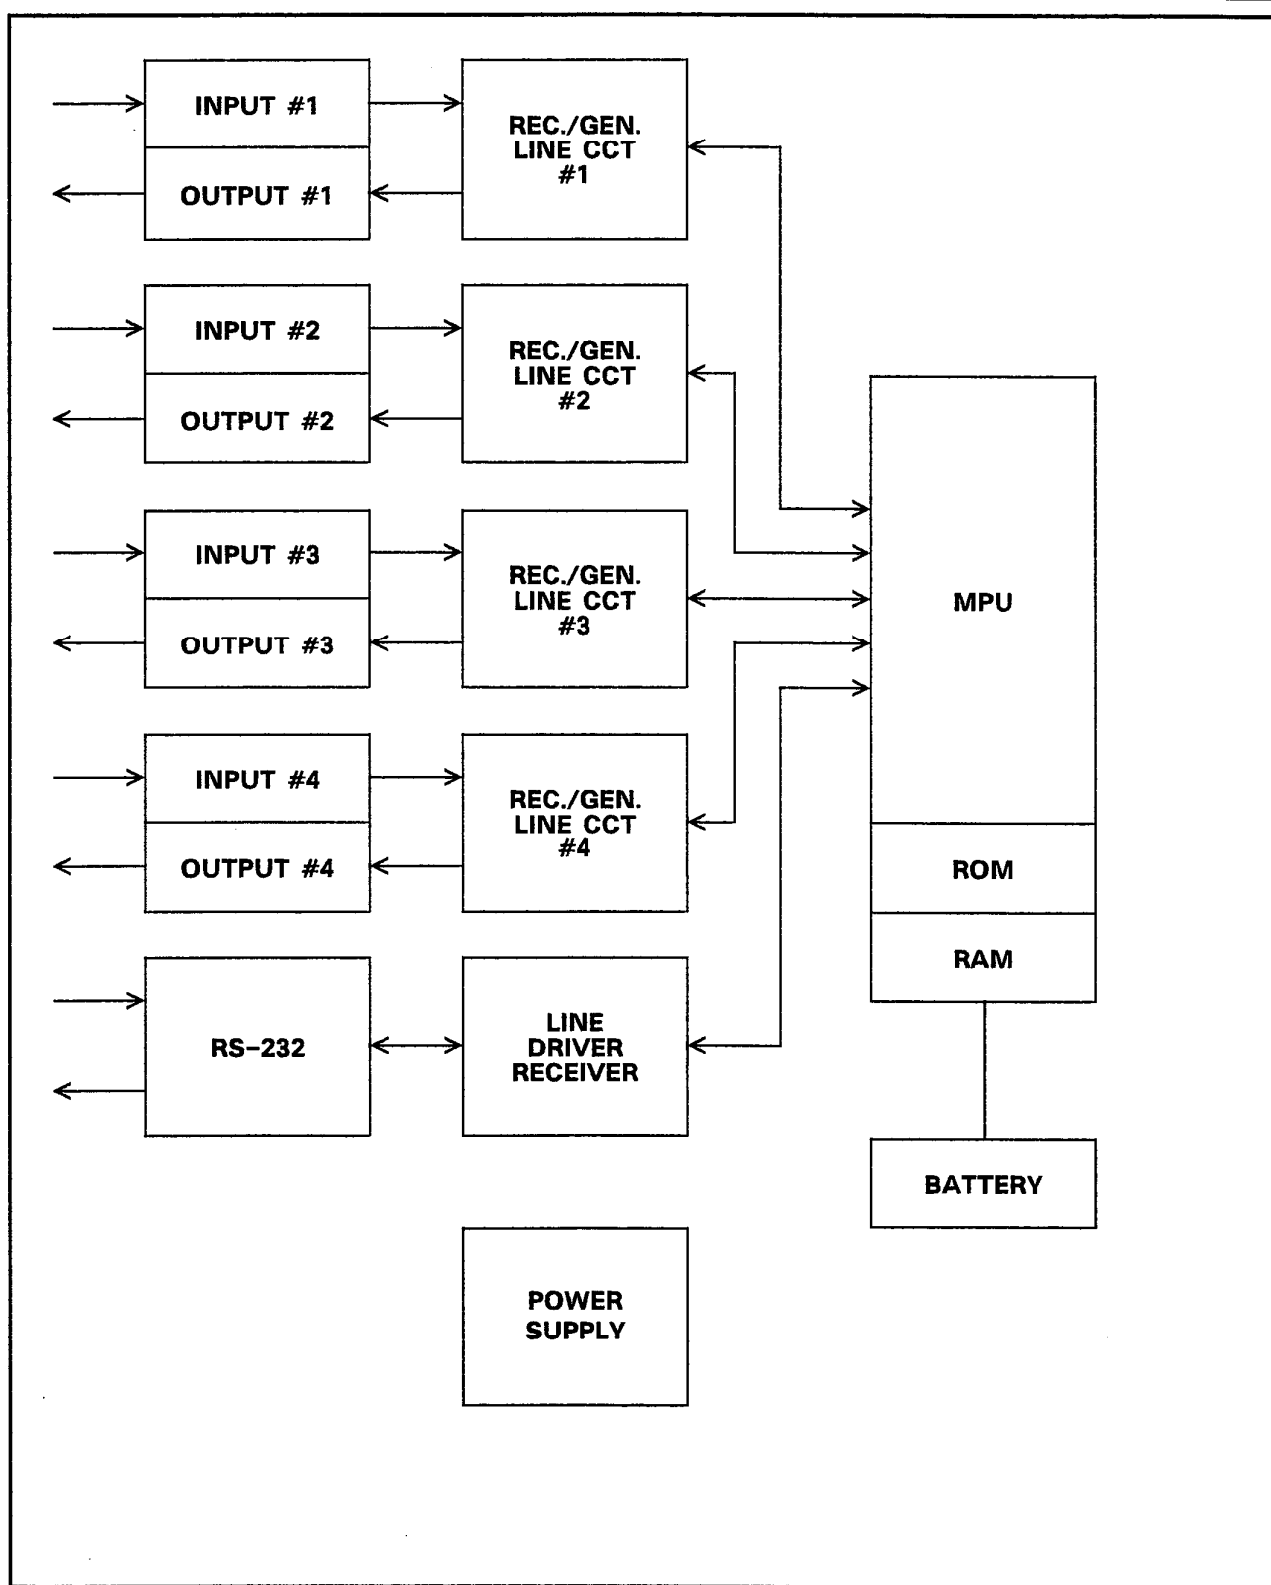

Figure C-1, SMarT-1™ System Block Diagram
**8.01** This part will be added at a later date. For the present, refer to Appendix C, Figures C-1 and C-2 for an overall block diagram, and a simplified electrical diagram of the Controller, respectively.
**C1.01** Figures C-1 and C-2 on the following pages are a block diagram and a simplified electrical diagram for the SMarT-1™ Security Access Controller. Table C-1 is a listing of the standard 7-bit ASCII codes followed by the code equivalents. Table C-2 contains Legal Dialer Programming Input Characters.